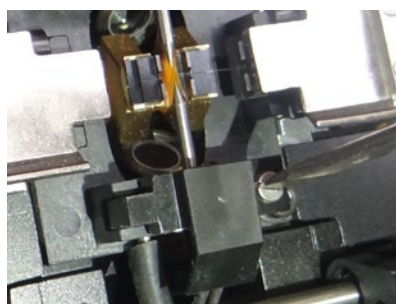

FIGURE 5.5
2. Loosen setscrews of electrodes cover and remove the electrodes cover, as shown in Figure 5.5.